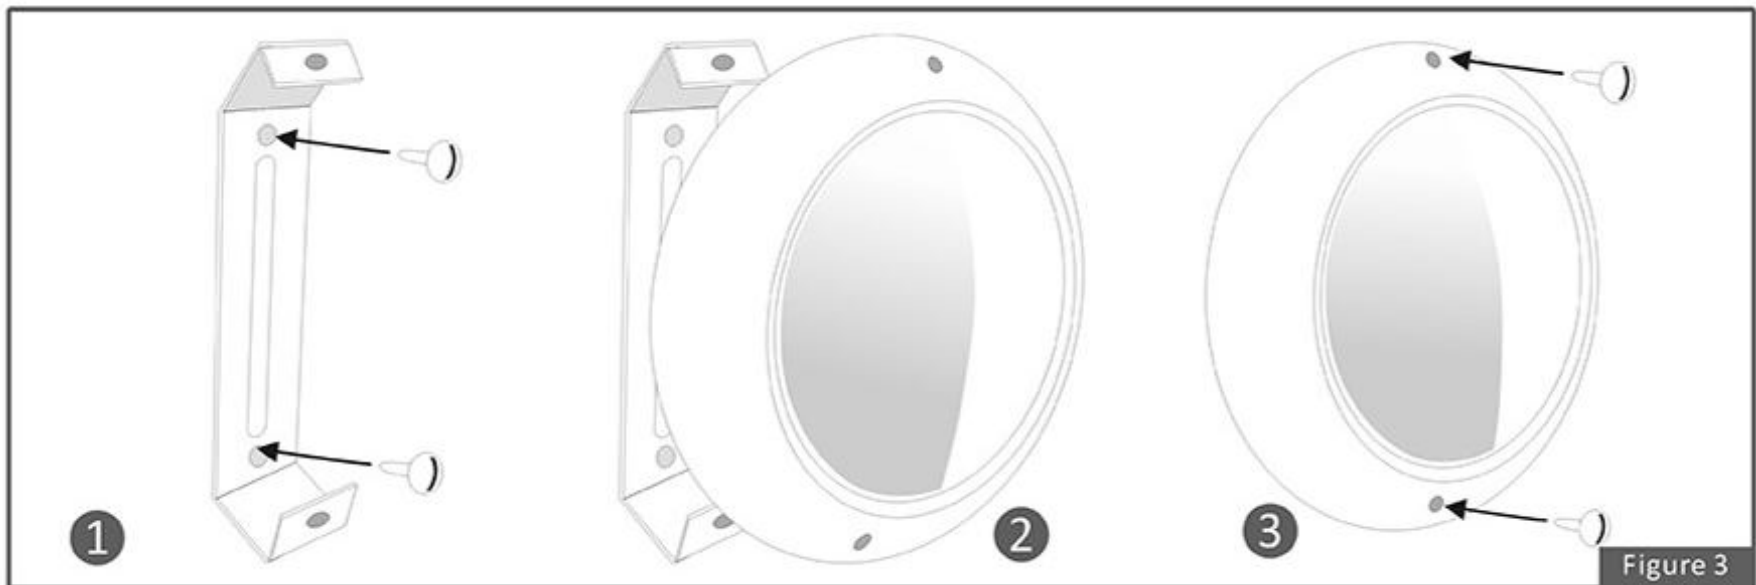

Figure 3
4. Lower the light into the water and hide the cable behind the lights fitting. Insert the base of the light into the base of the Retrofit bracket and tilt the lights back into position. Insert the screw into the hole at the top of the light and secure( Fig 3)